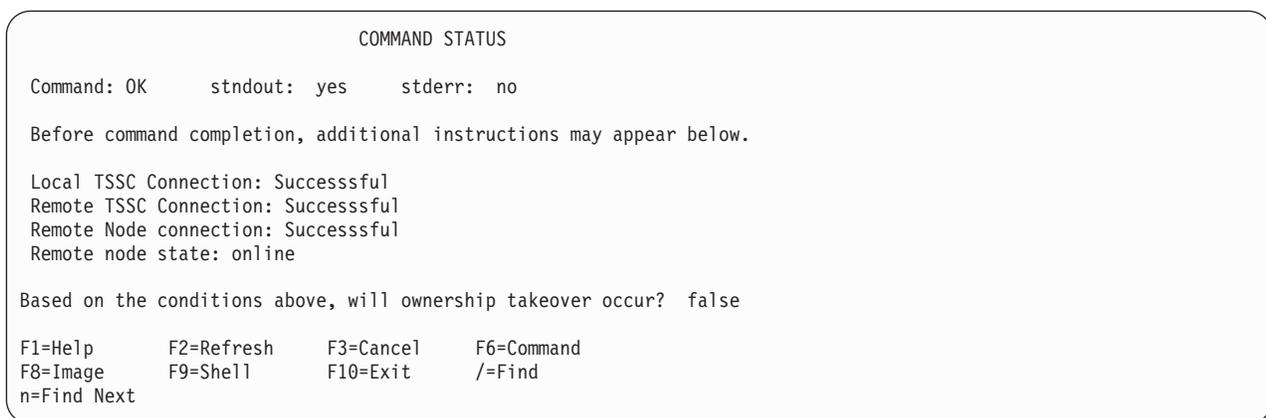

Figure 34. Processing AOTM Changes
5. Press **Enter** to start the test, or press **Cancel** to return to the application. If you press Enter, you see Figure 34.
Notes: In the Figure 34 field "Based on the conditions above, will ownership takeover occur?"